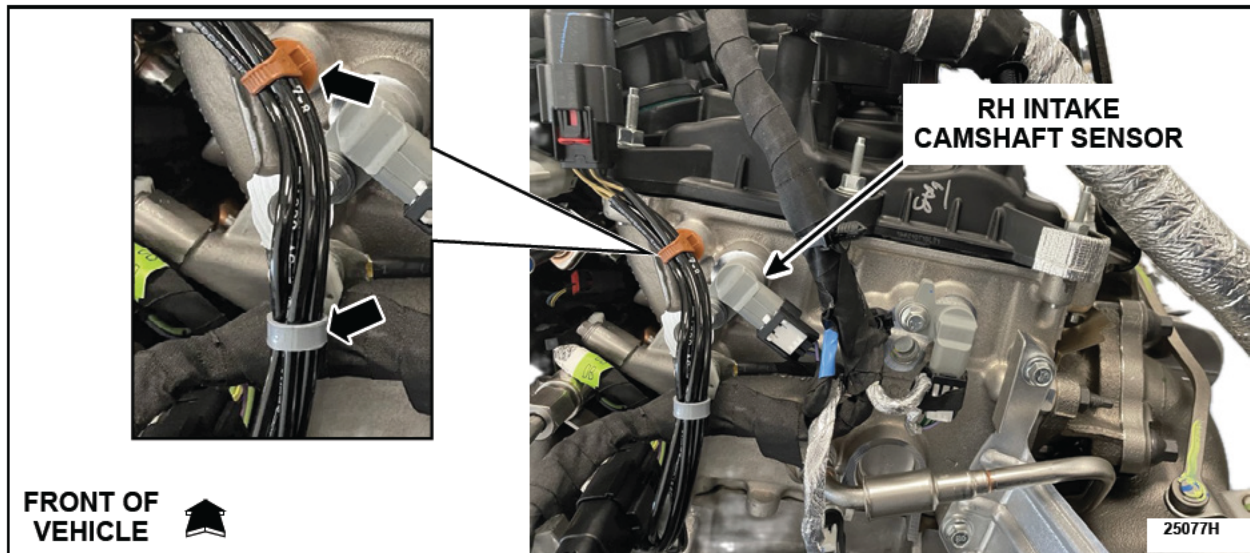

FIGURE 7
16. Detach the two wire harness push pins. See Figure 7.